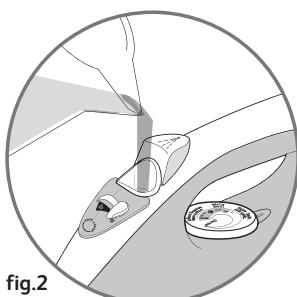

fig.2
- Place the iron flat and fill it (fig.2).